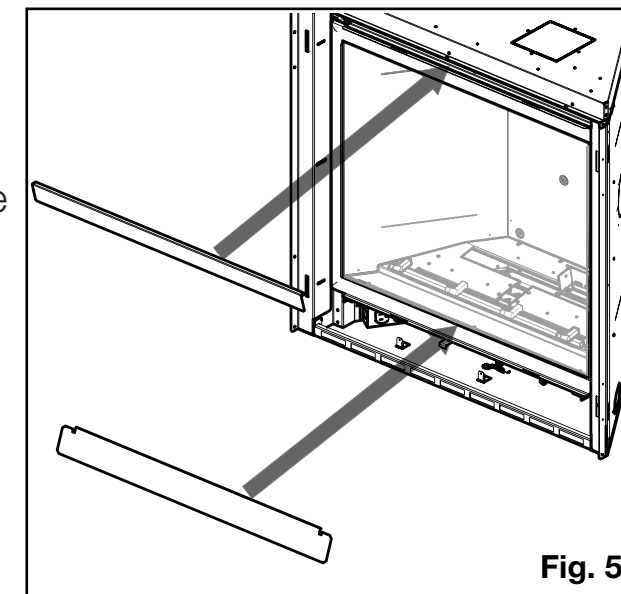

Fig. 5
- **In order to conceal controls, the top and bottom trims are wrapped separately inside the appliance and MUST be installed. NOTE: DO NOT DISCARD (Fig. 5).**